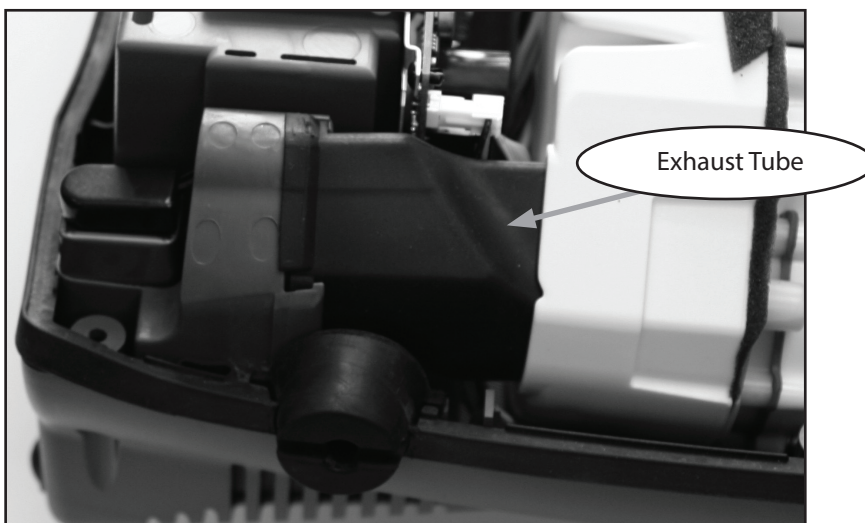

Fig 65: Exhaust Tube
- 1.5 Remove the Exhaust tube in Figure 65. Set aside for later installation.